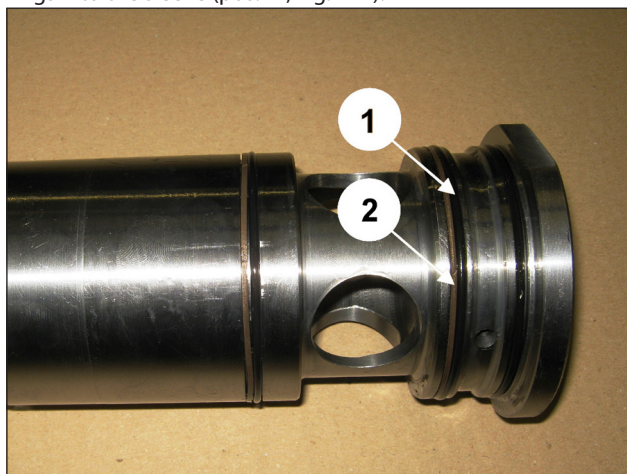

Fig. 127
Fit the O-rings (pos. ①, Fig. 127) and the associated back-up rings into the sleeve (pos. ②, Fig. 127).